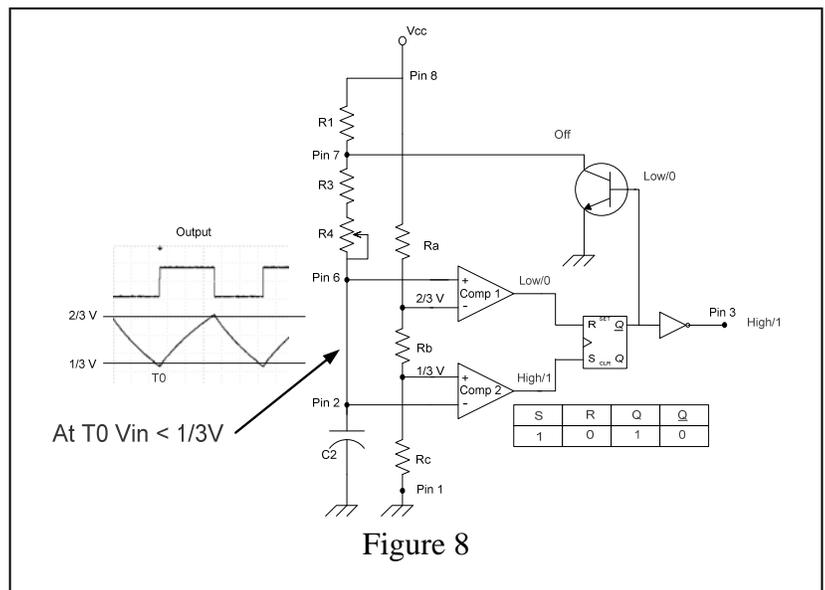

Figure 8
**Time T0.** During the following step by step discussion of the 555 timer operation, you will need to refer to the truth tables for the comparator and RS Flip-Flop previously presented. In figure 8,